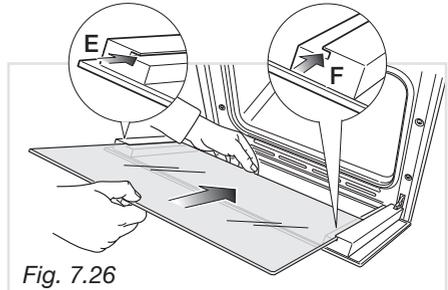
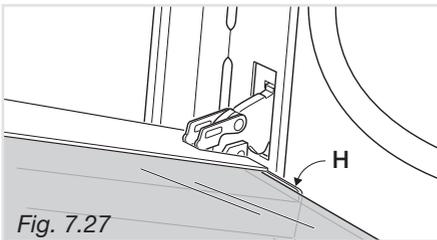

Fig. 7.26
Fig. 7.27
- Insert the pane in the left “E” and right “F” slide guides (fig. 7.26), and gently slide it to the retainers “H” (fig. 7.27).